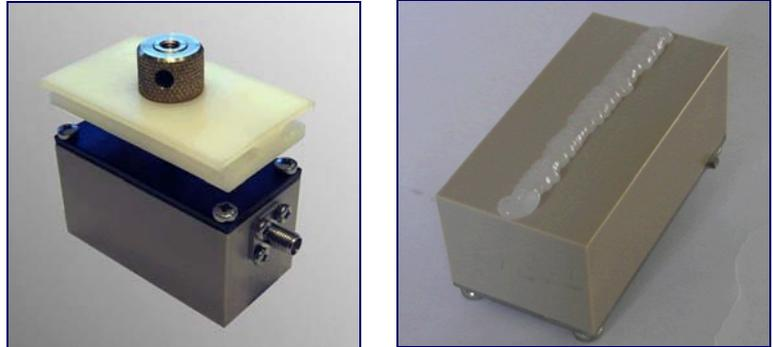

Figure 2.7
1. Attach the nylon flags to the two transducers, as shown in Figure 2.7.